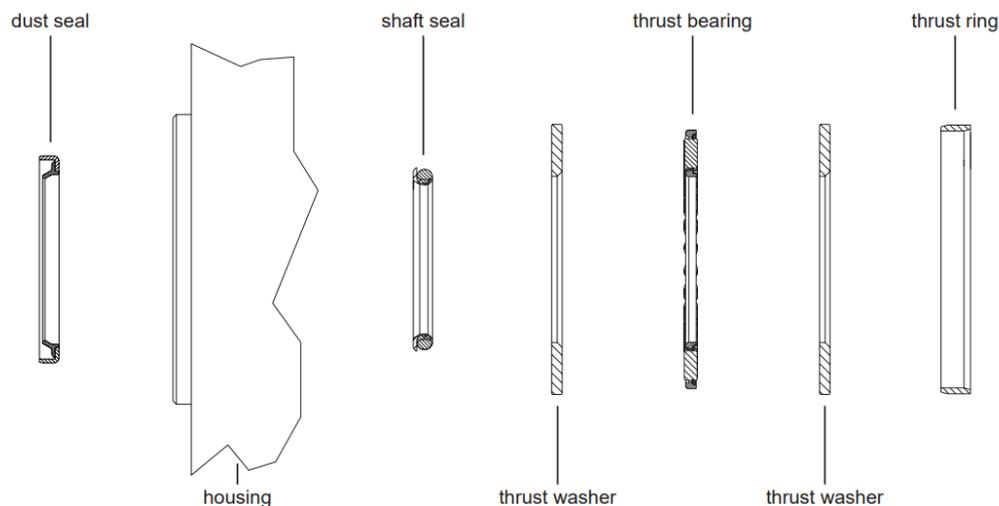

Figure 1
- A) To aid in reassembly of the steering unit, make a “V” shaped set of lines from the endcover to the housing using either paint or a marker. With shaft facing down, secure steering unit in vise by clamping on to housing (6). Loosen and remove the seven bolts (15 & 16) holding assembly together. With paint or a marker, mark which bolt hole contained the restrictive bolt by running a straight line from the endcover (14) to the housing (6). Remove the bolt washers (5) from the seven bolts and discard bolt washers. Remove endcover (14) from assembly and set aside.
- B) Lift rotor assembly (12) off drive link (10). Remove seals (4) from each side of rotor assembly (12) and discard seals. If present, remove drive link spacer (13) and set aside.
- C) Remove wear plate (11) and drive link (10) and set components aside. Remove housing seal (3) from housing (6) and discard seal.
- D) Remove housing (6) from vise and gently tap shaft assembly (17, 18, 19 & 20) through the rear of housing (6). When replacing the seals in the steering unit, it is not necessary to disassemble the shaft assembly (17, 18, 19 & 20) by removing the pin (18) or centering springs (19 & 20).
- E) Remove the thrust ring (9) thrust washers (7) and thrust bearing (8) and set components aside. Carefully pry both the shaft seal (2) from inner bore of housing (6) and dust seal (1) from outer bore and discard seals.
- G) Begin reassembling the unit by placing the shaft assembly (17, 18, 19 & 20) on a flat surface with the output end facing up. Lower the thrust ring (9) then thrust washer (7) thrust bearing (8) the other thrust washer (7) and finally the new shaft seal (2) onto the shaft assembly. Press the new dust seal (1) into the housing (6) and secure housing in a vice with the dust seal (1) facing down. Refer to *Figure 1* for correct component orientation.
- H) Carefully lower the shaft assembly into the housing (6). Insert a new housing seal (3) into the groove in housing. Place drive link (10) into shaft assembly making sure the groove in the drive link engages the pin (18) in the shaft assembly. At this point, to seat the shaft seal properly in the housing (6) use a rubber mallet and tap the drive link (10) until the shaft assembly is flush with the rear surface of the housing (6).
- I) Place the wear plate (11) onto the housing (6). Insert new body seals (4) into grooves on both sides of the rotor assembly (12) and lower onto the drive link (10). For correct orientation, follow the paint/marker “V” shaped set of lines made before disassembly when placing the rotor assembly on the unit.
- J) If a spacer (13) was removed, place spacer inside rotor assembly and on top of drive link (10). Depending on the length of the drive link and the height of the rotor, some units will not use a spacer.
- K) Lower endcover (14) unto rotor assembly (12). Place new bolt washers (5) onto bolts (15 & 16) and place bolts into assembly. Make sure the restrictive bolt is placed back in the original bolt hole by lining up the mark made while removing the bolts. Pre-torque bolts to 13.6 Nm [10 ft. lb.] Final torque all bolts to 30 Nm [22 ft lb.].